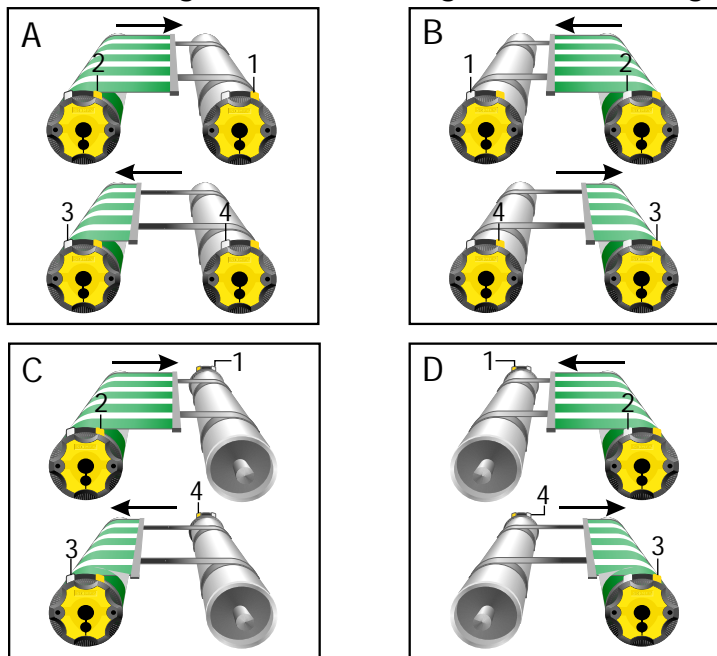

Fig. 2
The motorized tubes should be mounted onto their respective brackets. The locking stop ring included with each operator MUST be used with the motor end bracket. Ensure that the motorized tubes are parallel and fabric is rolled up. Attach Straps to the strap tube. Connect the Tester cable to the motor leads as shown in the table to the right, and in fig. 2 below. The winding direction will have the power switched, and the tension direction is not used.
1. Unwind the fabric using the tester cable (fig. 2). When the desired position is reached, set the strap tube limit by pressing and releasing the PRIMARY limit (1) on the strap motor tube. Then press and release the SECONDARY limit (2) on the fabric motor.